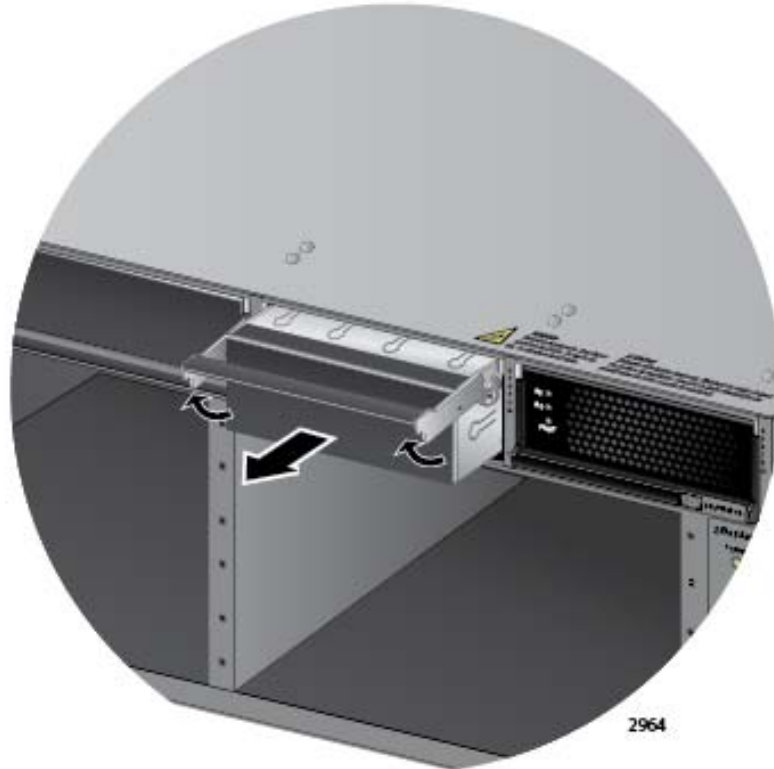

Figure 52. Removing the Blank Slot Cover from Power Supply Slot C
2. If the chassis already has a power supply in slot D, remove the blank power supply panel from slot C by lifting the blank panel handle and sliding it out of the slot, as shown in Figure 52.